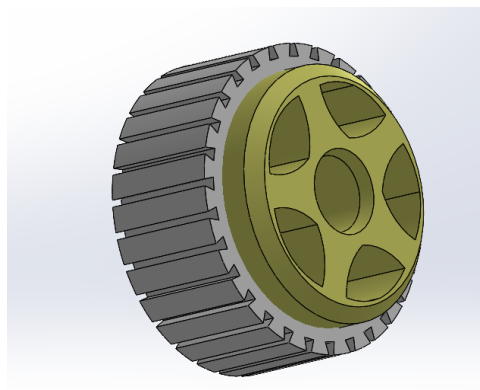

Figure 1: Right small wheel
STEP 1: In the first step of the mounting of this robot we take the tiny wheel numbered 25 and the flexible grip cover numbered 29 and put them together as in figure 1.